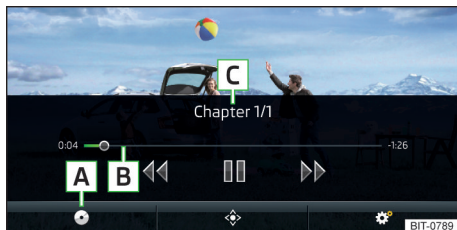

Fig. 192
Main menu » Fig. 192
Forward / rewind the video at the desired time	Tapping the playback time axis B » Fig. 192 on page 157
- to **display** the DVD menu in the *Video DVD* main menu, tap on the function surface ◆ » Fig. 192 on page 157.